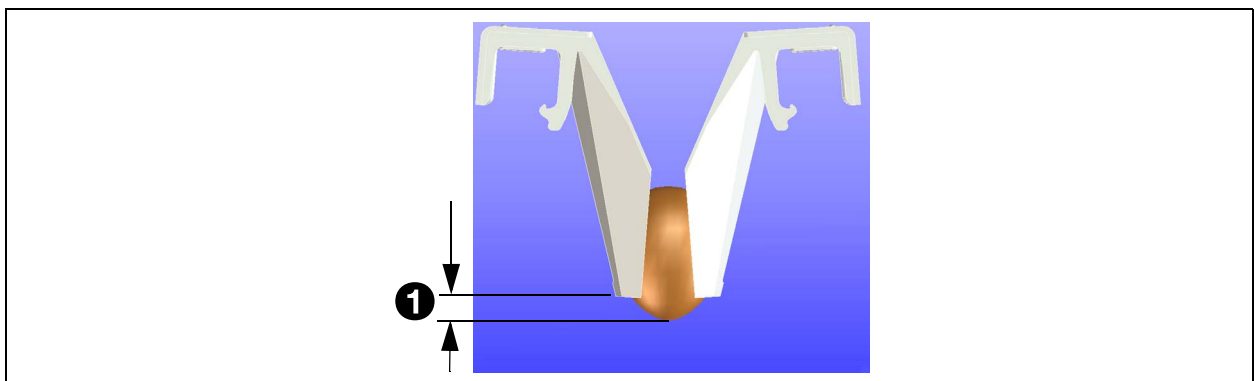

Fig. 168 - Adjustment of the egg in the receiver unit
3. Determine dimension (1) with the accompanying value in the table, see fig. 168 and table 6.